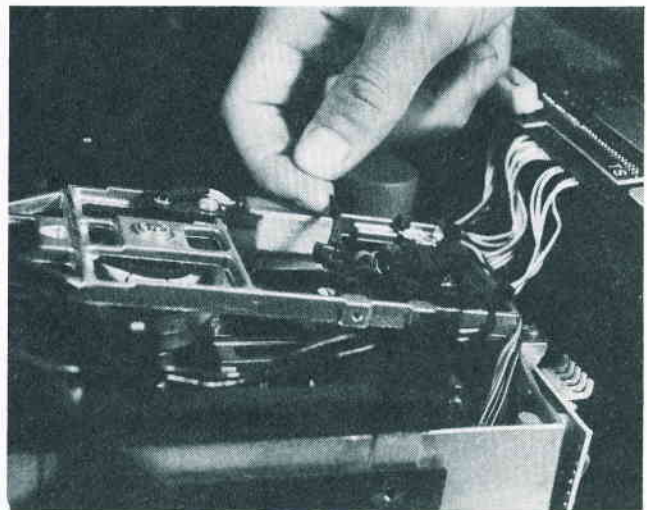

**Fig. 5-9.** Remove the two silver-colored flat-head screws holding the disk drive to the chassis.
4. Remove the two silver flat-head screws holding the drive tight to the chassis as shown in Fig. 5-9.
21. Replace the two silver flat-head screws on the sides of the drive (refer to Fig. 5-9).
5. Remove the two silver flat-head screws holding the drive tight (refer to Fig. 5-9).